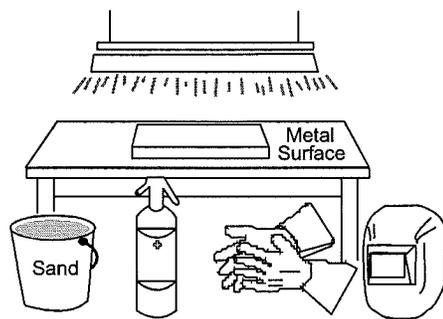

Figure 1. Work Surface Preparation
1. prepare an organized, well lighted work area (see Figure 1).